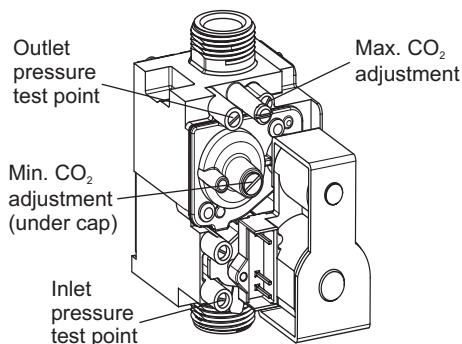

Fig. 5.2
2. Loosen the gas inlet pressure test point screw on the gas valve (see Fig. 5.2) and purge in accordance with BS 6891.
5.6 CHECK THE BURNER PRESSURES AND COMBUSTION - Figs. 5.2 and 5.3